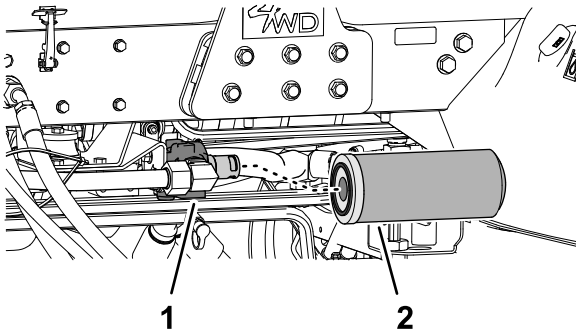

Figure 153
1. Clean the area around the return filter and filter head (Figure 153).